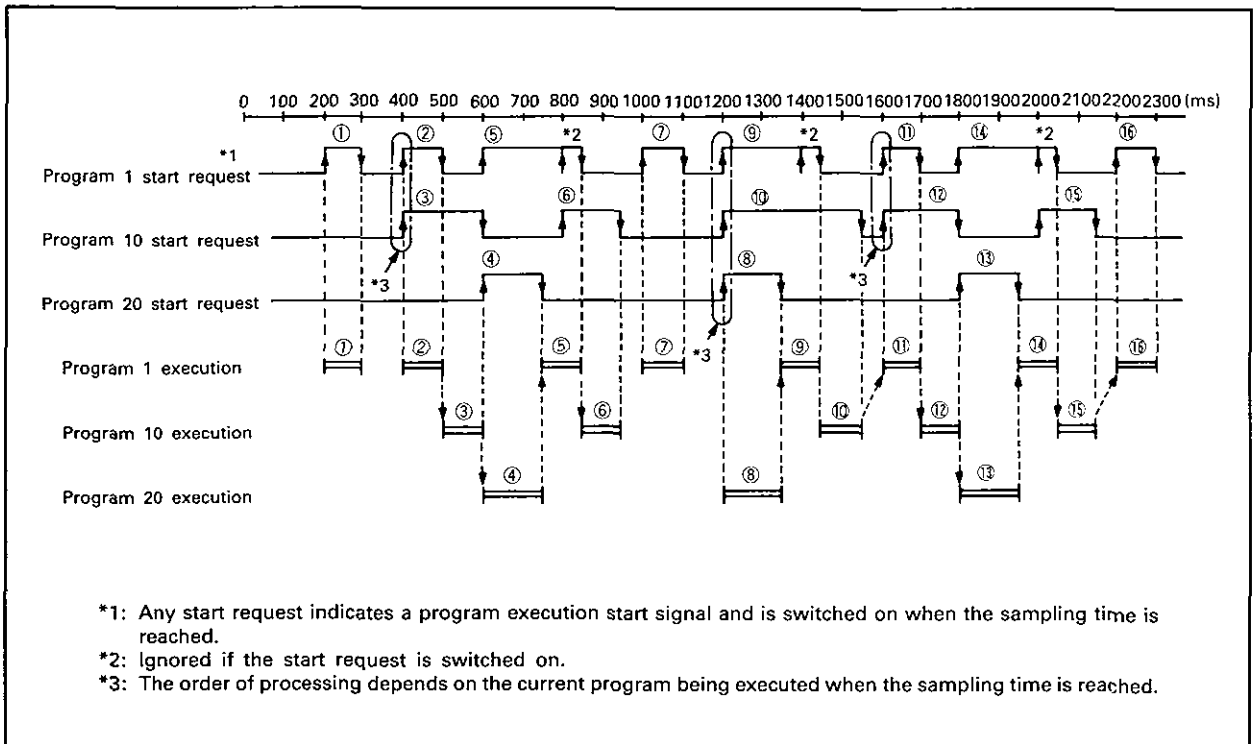

Fig. 2.3 Several Program Executions
(4) Several program executions
- (c) A program may not be executed at the specified sampling time or the sampling time may be ignored depending on the sampling time and program processing time. The example in Fig. 2.3 assumes that the sampling times and program processing times are as follows: